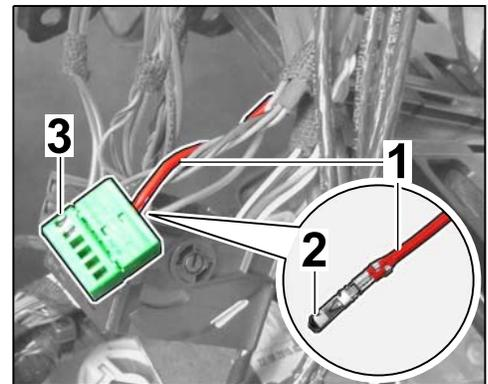

Figure 21
- 5.4.4 Crimp RD line ⇒ *Figure 21 -1-* from power supply wire harness and new socket contact ⇒ *Figure 21 -2-* together.
Close secondary lock ⇒ *Figure 21 -3-*.